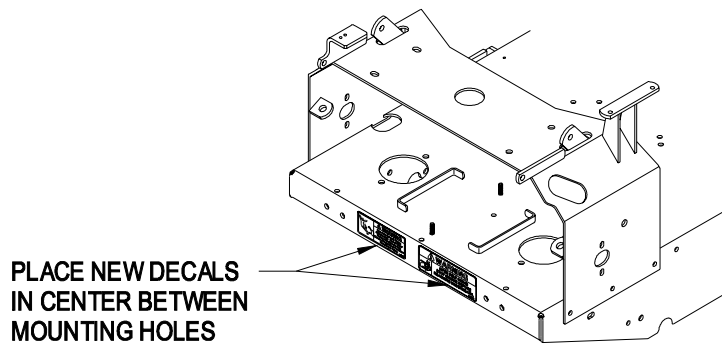

FIGURE 4
4. Apply the (2) replacement decals (Item 11) to the engine deck between the mounting holes. See Figure 4.